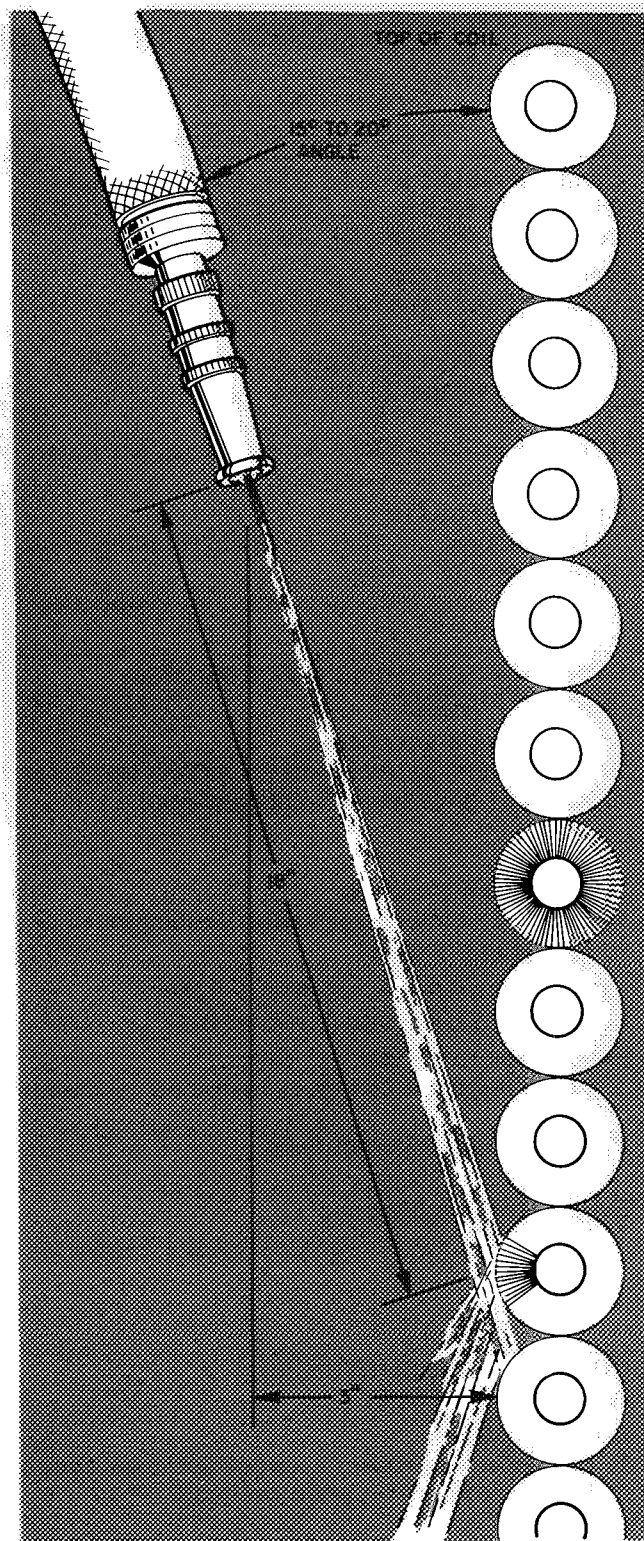

Fig. 12 — Positioning Hose to Spray Coil
5. Using garden hose, spray coil vertically downward with a constant stream of water at moderate pressure (see Fig. 12). Keep nozzle at a